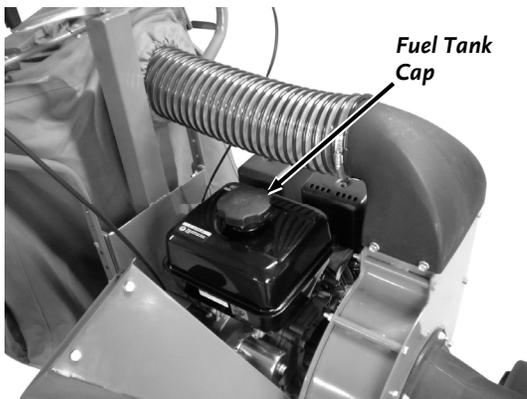

Figure 17
1. Remove the Fuel Tank Cap from the Fuel Tank (**Figure 17**).